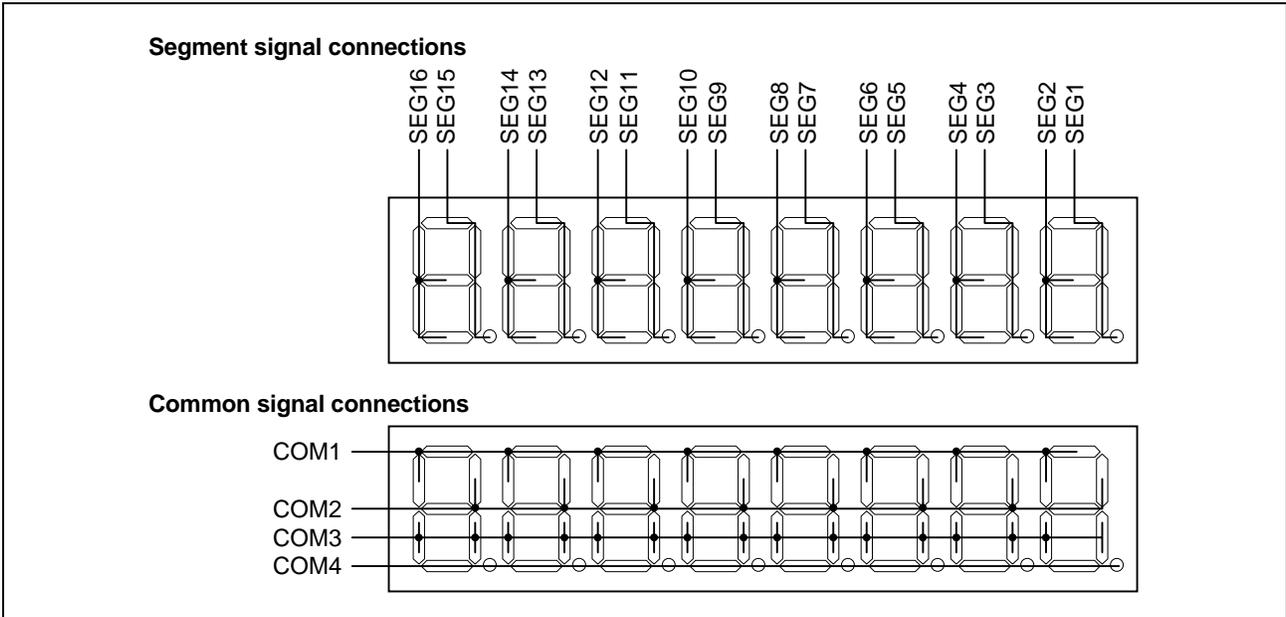

Figure 3 LCD Panel Segment Signal and Common Signal Connections
(2) This sample task uses 1/4 duty cycles to enable display on the 8-digit LCD panel. The LCD panel segment signals and common signals used in this sample task are shown in figure 3.